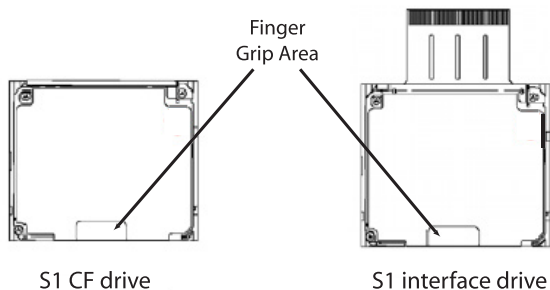

Figure 1 S1 Series - Finger grip areas
- S1 Series disc drives are fragile. Do not drop or jar the drive. Handle the drive only by the edges or by the finger grip area shown in Figure 1. Keep the device in the packaging until you are ready to install it and between uses to minimize handling damage.